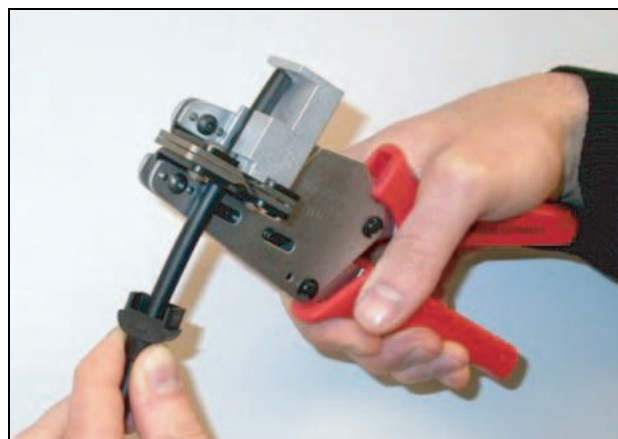

figure 3.3: Stripping the cable
- 5 Using the stripping tool (tool 5), strip the outer sheath of the cable by pushing the cable to the mechanical stop (see figure 3.3).